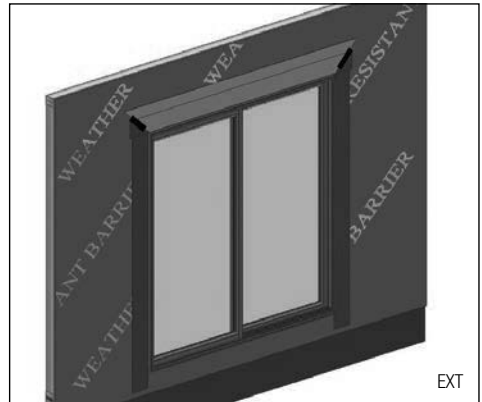

FIG. 17
- Flip down the top flap of the WRB. (Fig. 17)
- Tape the cut seams of the WRB. (Fig. 17)